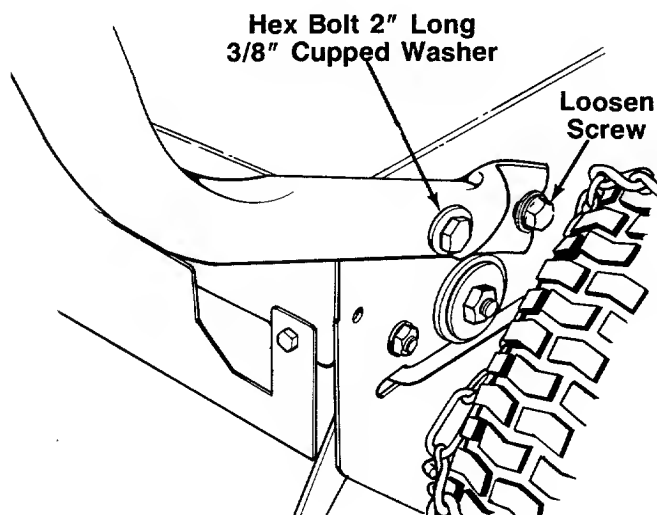

FIGURE 5.
- A. Loosen one self-tapping screw and cupped washer on each side of the unit. See figure 5. A 9/16 inch or adjustable wrench is required.